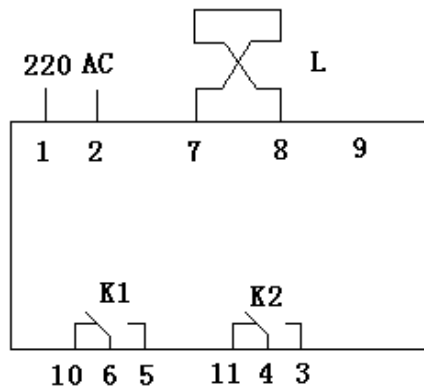

Figure 2
5.1 Terminal description, as shown in Figure 2.